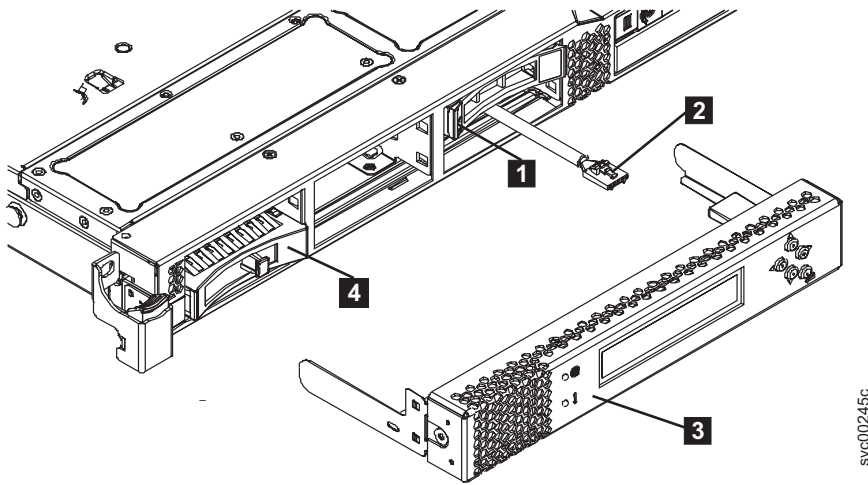

Figure 101. Boot drive location (SAN Volume Controller 2145-CF8 shown)
7. Slide the orange release latch ( **1** in Figure 101) gently to the left to unlock the drive handle of the boot drive. For details on the boot drive location, see “IDs for SAN Volume Controller 2145-CG8 or 2145-CF8 disk drives” on page 115.